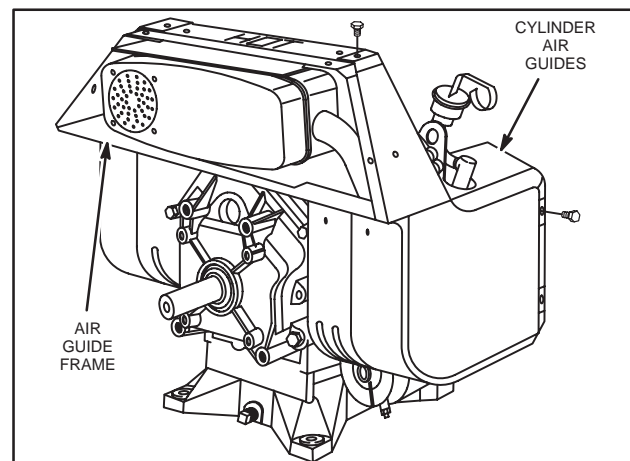
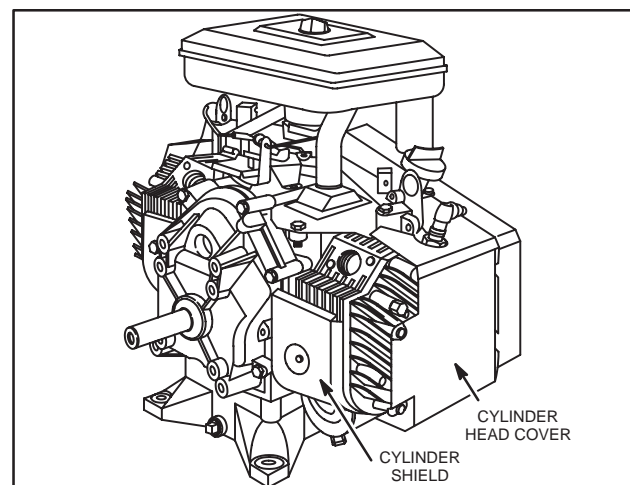

Fig. 2 – Cylinder Ducting
Fig. 3 – Non-Ducted Engine
2. Remove cylinder air guides and cylinder shields, Fig. 2 and Fig. 3.